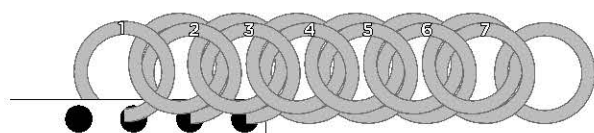

FIG. 1
2. Make a base chain of Half-Persian 3-in-1 (through Step 12) to the desired length. Do not remove from the tool (FIG. 1).